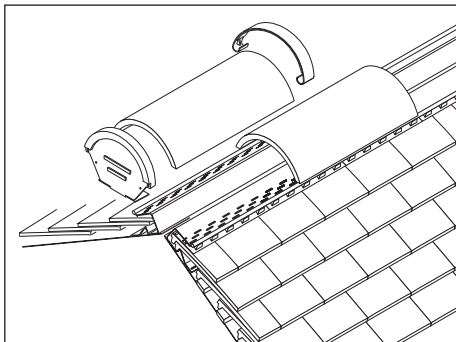

Fig. 16 – Finish ridge end using segmental ridge end cap
- 4 Lay and secure ridge tiles in normal way using segmental ridge unions. Finish end ridge either using a purpose made block end tile or a segmental ridge end cap (Fig. 16).